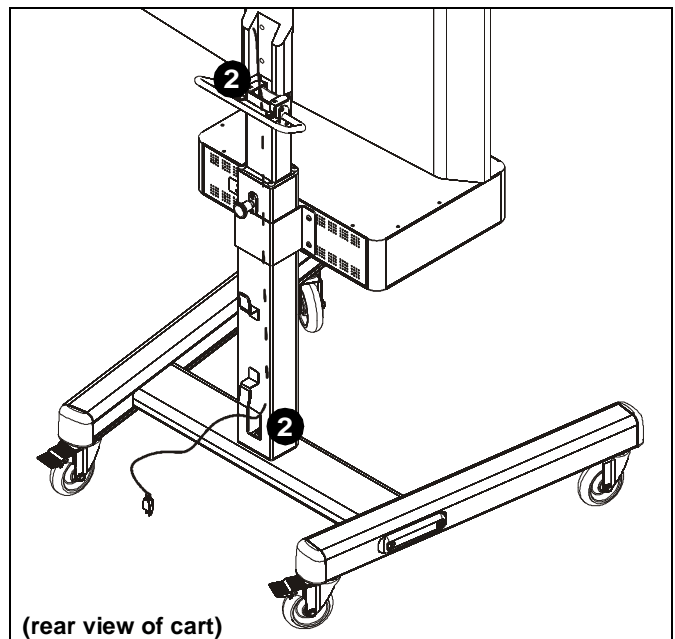

Figure 12
- The display power cord can be run through the top and down through the post to exit out the back. (See Figure 12)